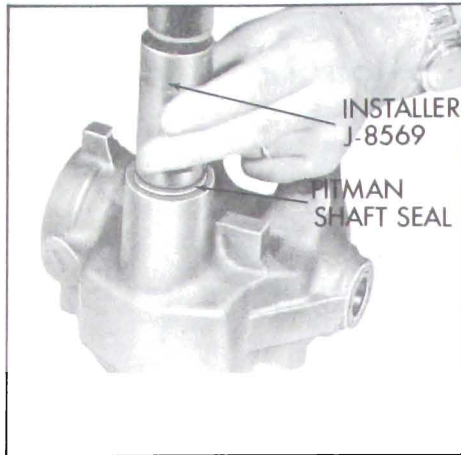

Figure 8-11—Installing Pitman Shaft Seal
It is not necessary to disassemble gear to replace worm or pitman shaft seals. Remove seal with awl being careful not to damage housing or shaft and install a new seal with Installer J-8564 or J-8569. See Figures 8-11 or 8-12.
8. To protect pitman shaft seal from damage, cover shaft splines with masking tape. Slide new seal into place and seat against shoulder in housing using Installer J-8569. See Figure 8-11.